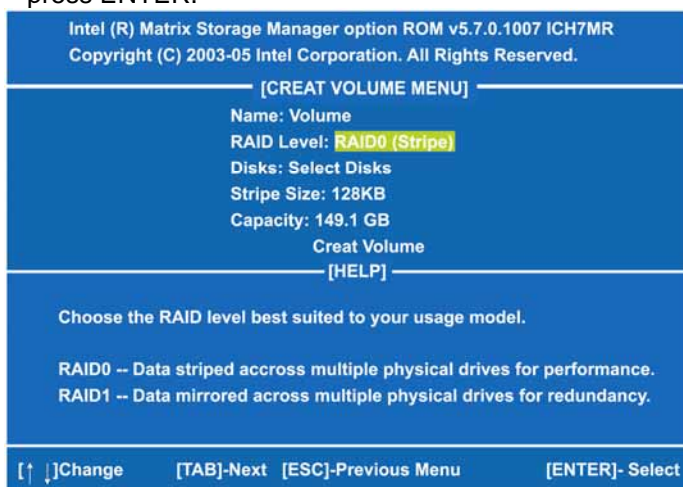

Figure 5
- (3)-3 After entering the **CREAT VOLUME MENU** screen, you can type the disk array name with 1~16 letters (letters cannot be special characters) in the item "Name". When finished, press ENTER to select a RAID level (as Figure 5). There are two RAID levels, RAID0 and RAID1. Select a RAID level and press ENTER.